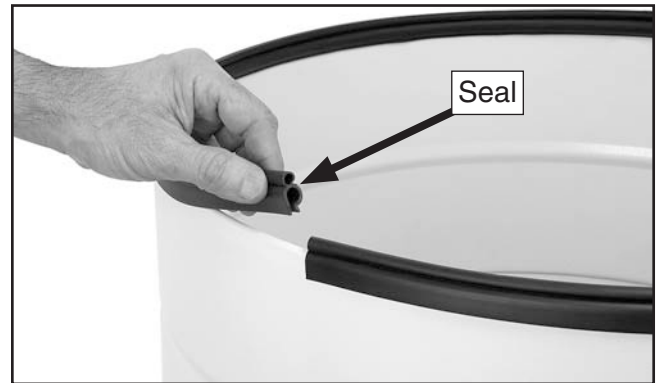

Figure 36. Installing drum seal.
44. Install the rubber seal over the top lip of the collection drum rim. Pay special attention to the direction of the seal, as shown in the **Figure 36**.